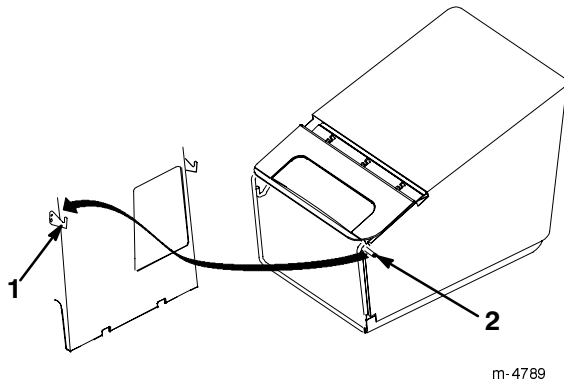

Figure 15
5. Hang the grass bag frame pins onto the deck hooks as shown in Figure 15.
4. Lift the grass bag frame pins off the deck hooks and out of the opening as shown in Figure 15.